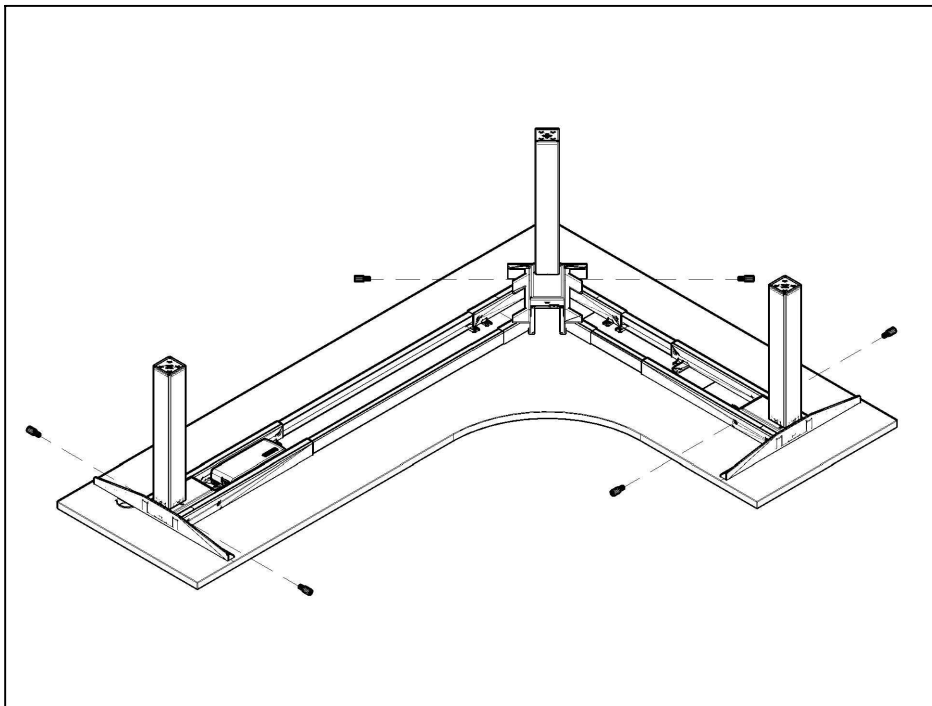

FIGURE 9
9. Install M6 x 15 machine screw using 5 mm allen wrench (Figure 9).